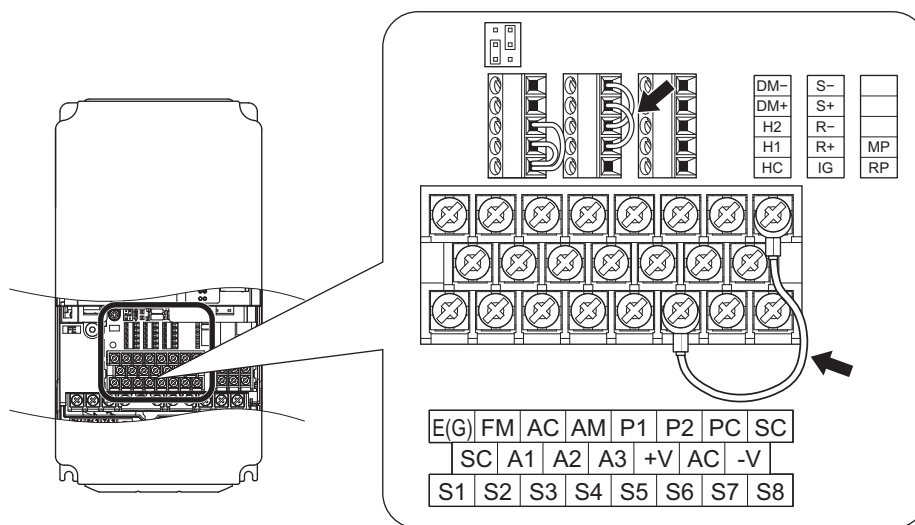

Figure C.9 Terminal Connections for Communication Self-Diagnostics
4. With the power off, wire the drive as shown in Figure C.9, connecting terminals R+ and S+, R- and S-, and S6 and SC.